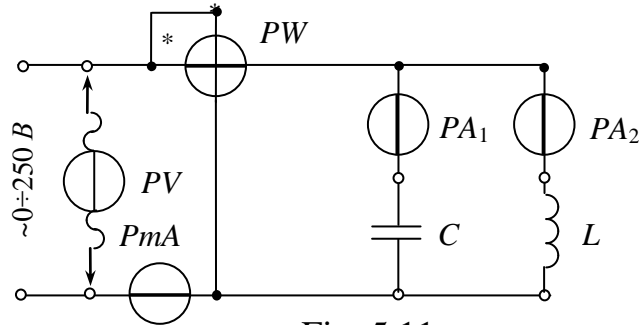

Fig. 5.11
1. To collect the circuit (fig. 5.11) and connect it to the clamps $<\sim>$ $<0 \div 250 V>$. To place $LATR$ switch in the position $<\sim>$, $0 \div 250 V$.
The name and purpose of the work. Homework – the calculation of the circuit. Schematic diagram of the investigated circuit (fig 5.11). Tables 5.2, 5.3. The vector diagrams. Conclusions.